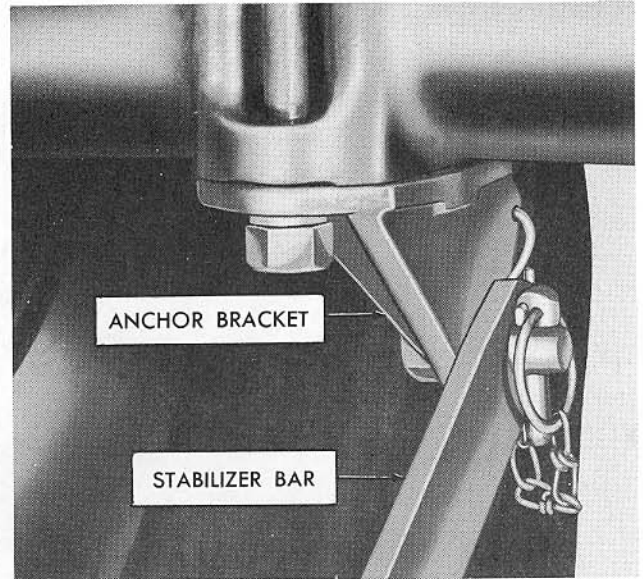
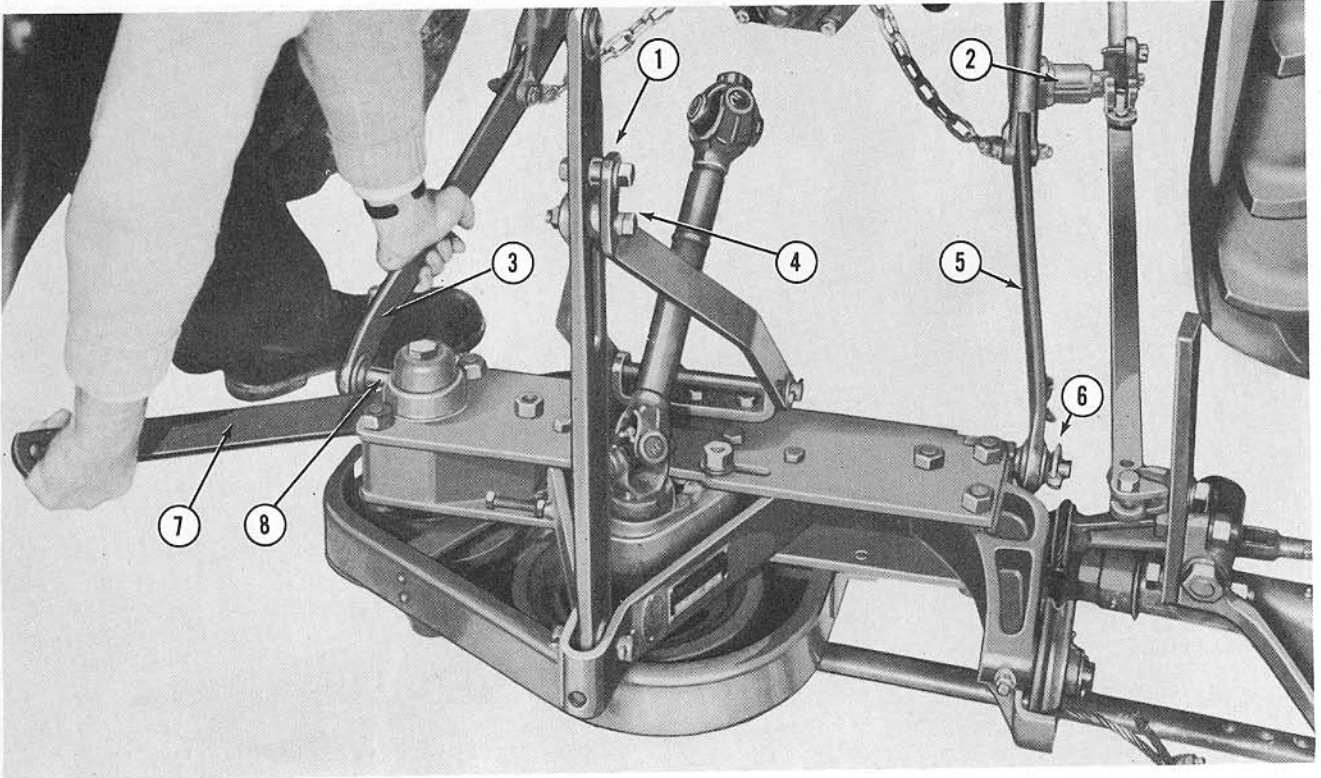

Figure 10
Figure 13
17. Attach the left hand anchor bracket to the tractor rear axle housing with fender bolts as shown in Figure 10.
- a. Place the mower in a cleared area with the safety release housing (2), Figure 13, positioned as shown. Lock the anchor strap pin (4) with the transport lock (1).
- b. Back the tractor up to the mower and align the right lower link (5) with the pin (6) by turning the tractor leveling crank. Attach the link and secure with the linch pin provided.
- c. Pry the pin (8), Figure 13, into alignment with the left tractor link (3) using the stabilizer bar (7) as shown, and slip the left tractor link on the pin.
- d. Attach the forward end of the stabilizer bar (7), Figure 13, to the left hand anchor bracket as shown in Figure 10 and secure with the linch pin.
- e. Level the mower main frame with the tractor leveling crank and attach the rear end of the stabilizer bar (7) to the pin (8), Figure 13. Secure with the linch pin provided.